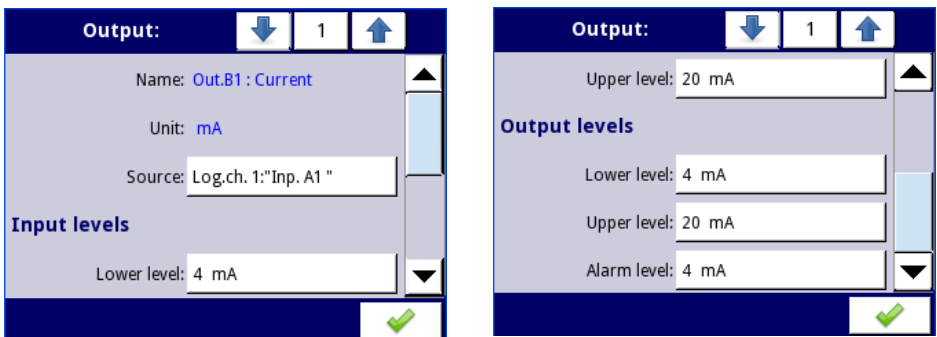

Fig. 7.90. Parameters of the **Passive current** output
- **Lower level** and **Upper level** - these parameters limit range of the output signal, below this range input signal will have **Lower level** value and above this range the signal will have **Upper level** value, relationship between Lower and Upper levels is linear and it is limited by defined range, see **Fig. 7.90**,